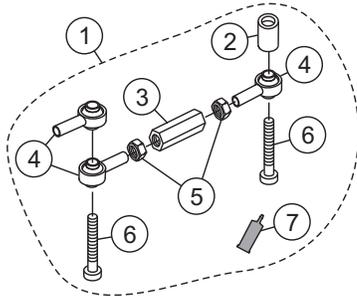

Figure 1. Steering Linkage Enhancement Kit
Figure 1 shows the components of the steering linkage enhancement kit. Verify that all parts are accounted for. See Table 1.
3. Remove and discard rod end. Replace with new rod end (Figure 1, item 4). Use existing jam nut to secure rod end to motion rod.